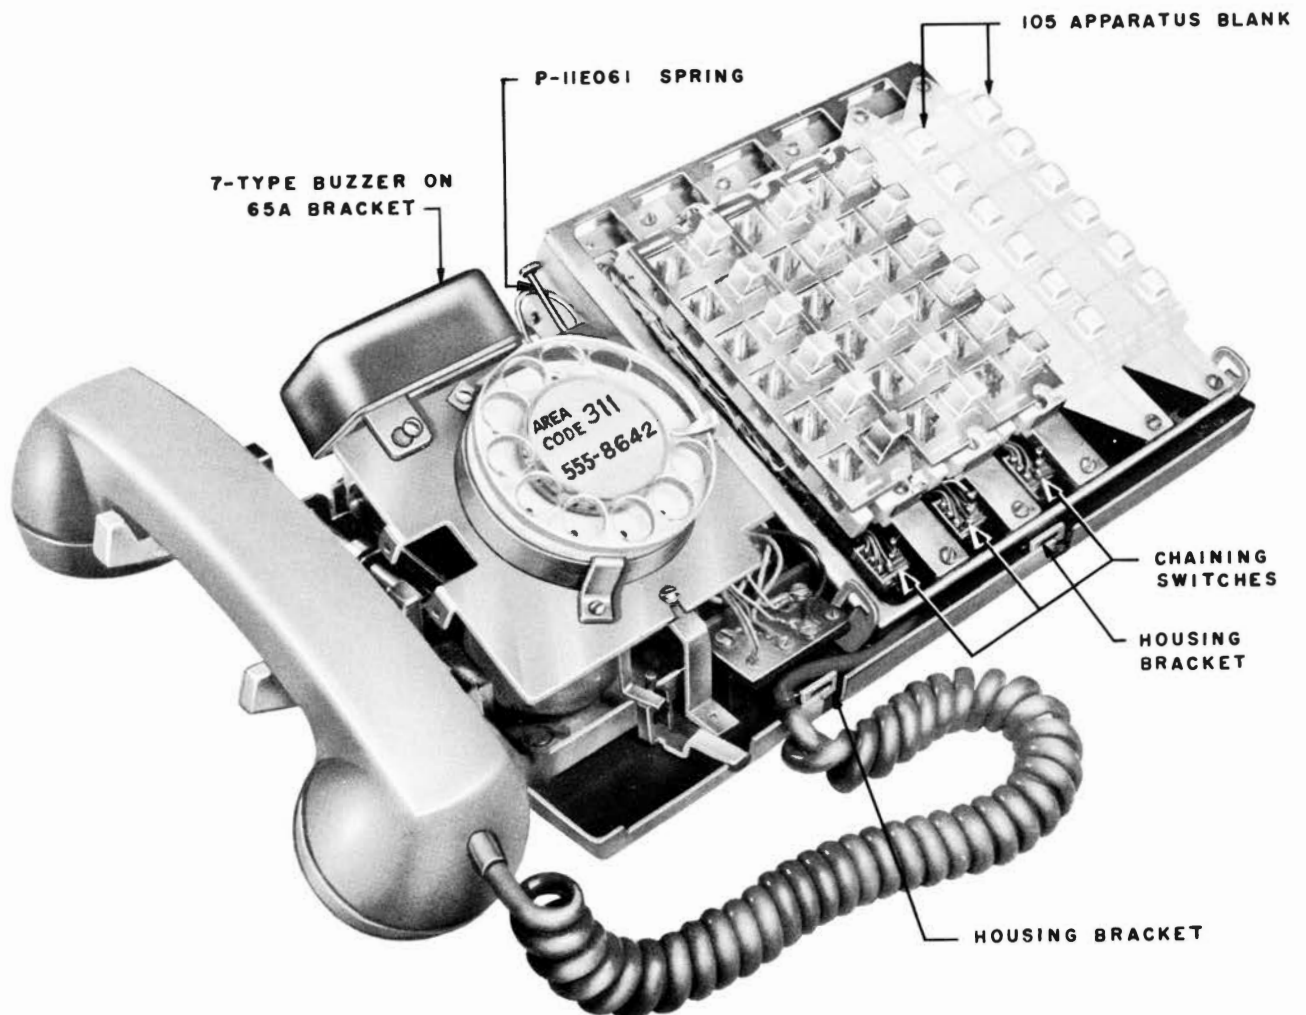

Fig. 9 — 601-Type Telephone Set, Housing Removed
3.04 All line pickup keys are mechanically interlocked within a 598A, 599A, or 599B key. These, in turn, are mechanically interlocked by a common pivot bar. Operation of any pickup button on any key releases any other operated button, as does the hold button on its upstroke. All keys are interconnected electrically through a chaining switch on each key unit; this disconnects subsequently positioned keys when any pickup is depressed (Fig. 9). This arrangement prevents connecting the telephone set to more than one line at a time. One locking-type button may be depressed in each row of keys, but only the one nearest the telephone circuit will be electrically connected to associated line equipment.
2. Loosen screws from dial mounting plate (Fig. 9).
3. Move dial mounting to rear and lift (Fig. 9).